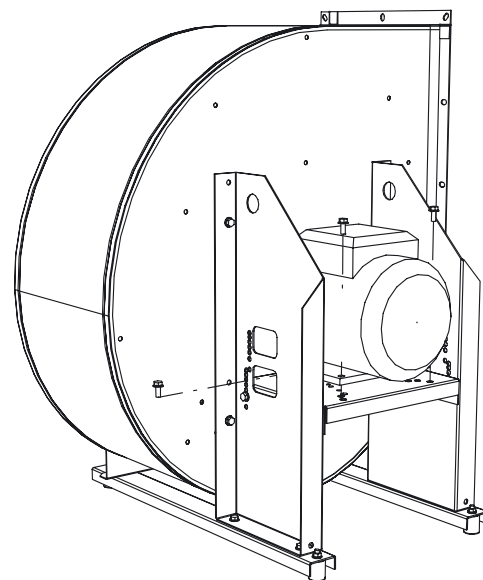

Fig. 4.12 Remove the motor from the bracket.
- Remove the motor from the bracket (Fig. 4.12).